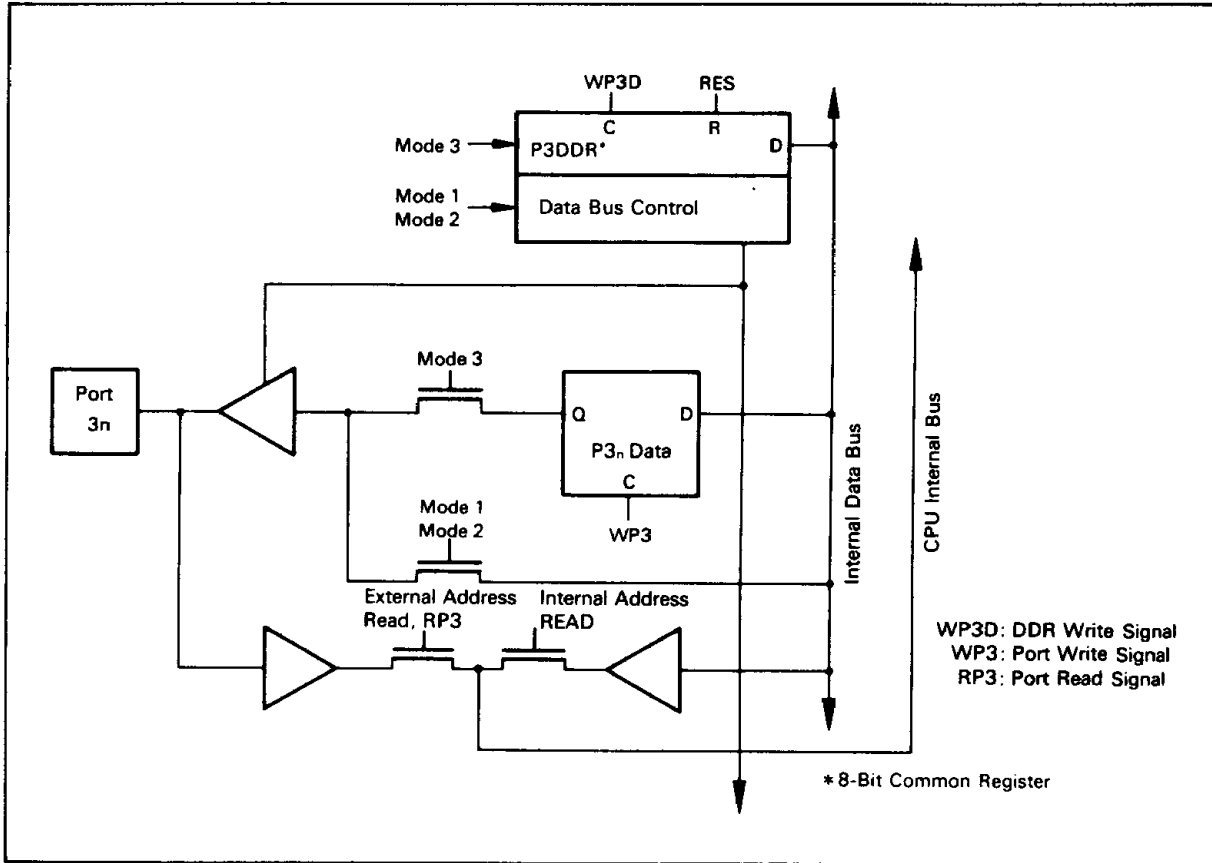
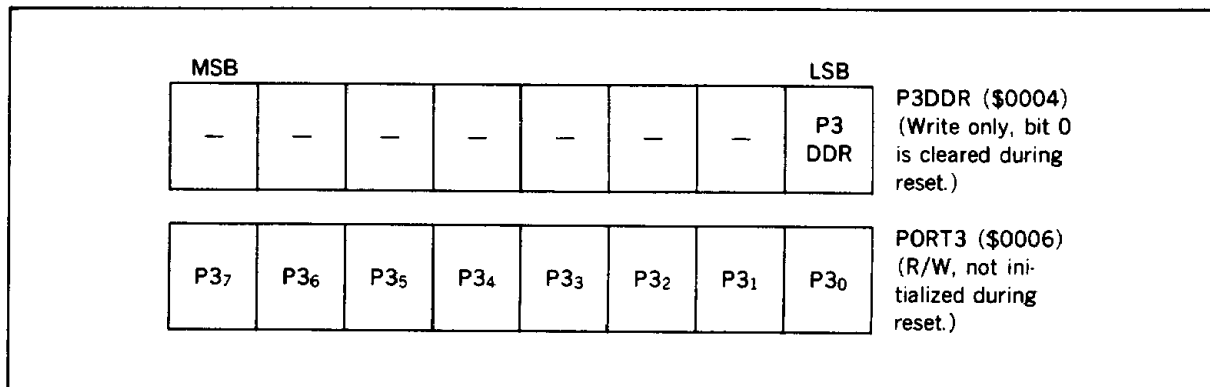

Figure 13. Port 3 Block Diagram
Figure 14. Port 3 Register and Data Direction Register
**Port 3** : Port 3 is an 8-bit I/O port (figure 13). The LSB of the DDR (\$0004) selects the data direction of the whole port (figure 14). In the expanded